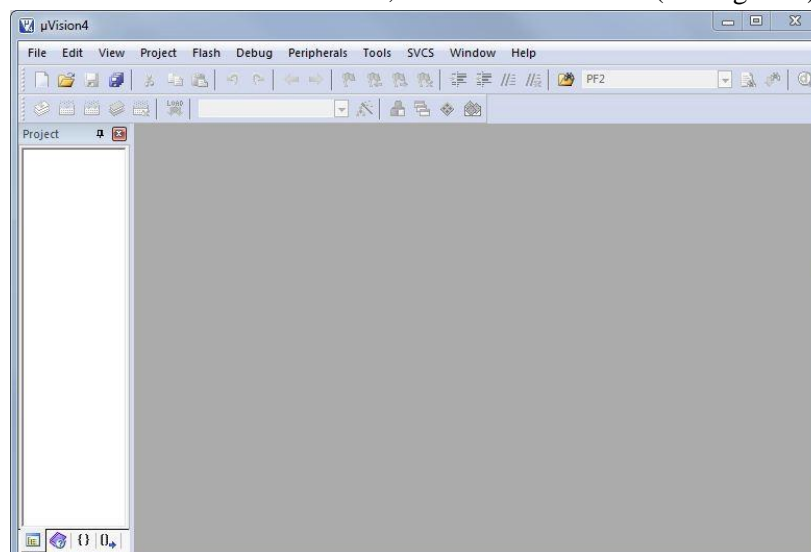

Figure 2
2. Start the Keil μ Vision IDE by double-clicking the icon on your desktop or by selecting it from the Windows Start Menu. When the IDE loads, it was a blank screen (see Figure 2).